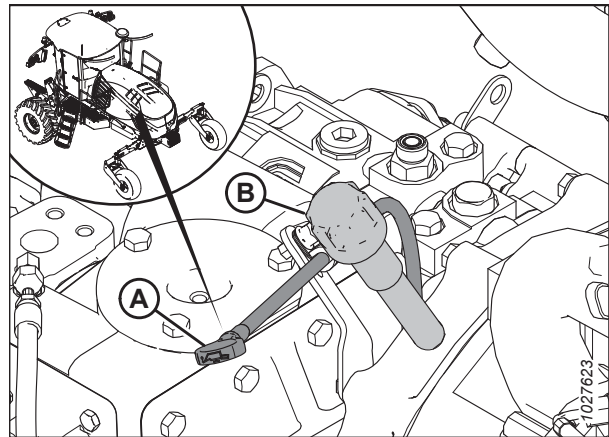

Figure 5.63: Gearbox Lubricant Dipstick
5. If the lubricant level is at or below ADD mark (A) on the dipstick, remove the breather cap ([B] in Figure 5.63, page 378) and add gearbox lubricant. Insert the dipstick again to check the lubricant level. Repeat this process until the lubricant level is between ADD mark (A) and FULL mark (B) on the dipstick.